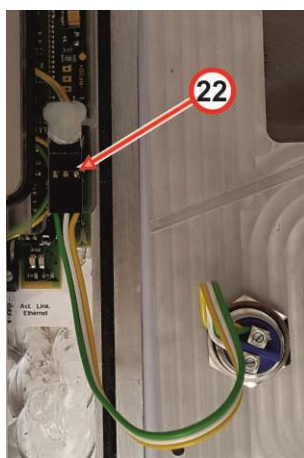

Fig 5 Unplug the call buttons cable (point 22) to detach the front cover easily.
- Open the front cover of the unit, disconnect the call buttons cable (point 22, Fig. 5 below)
If you unplug the call buttons cable from the connector (point 22 at Fig 5 below), it will be easier to detach the front cover and work with the doorphone. Connector's orientation is based on the colours of the cable.